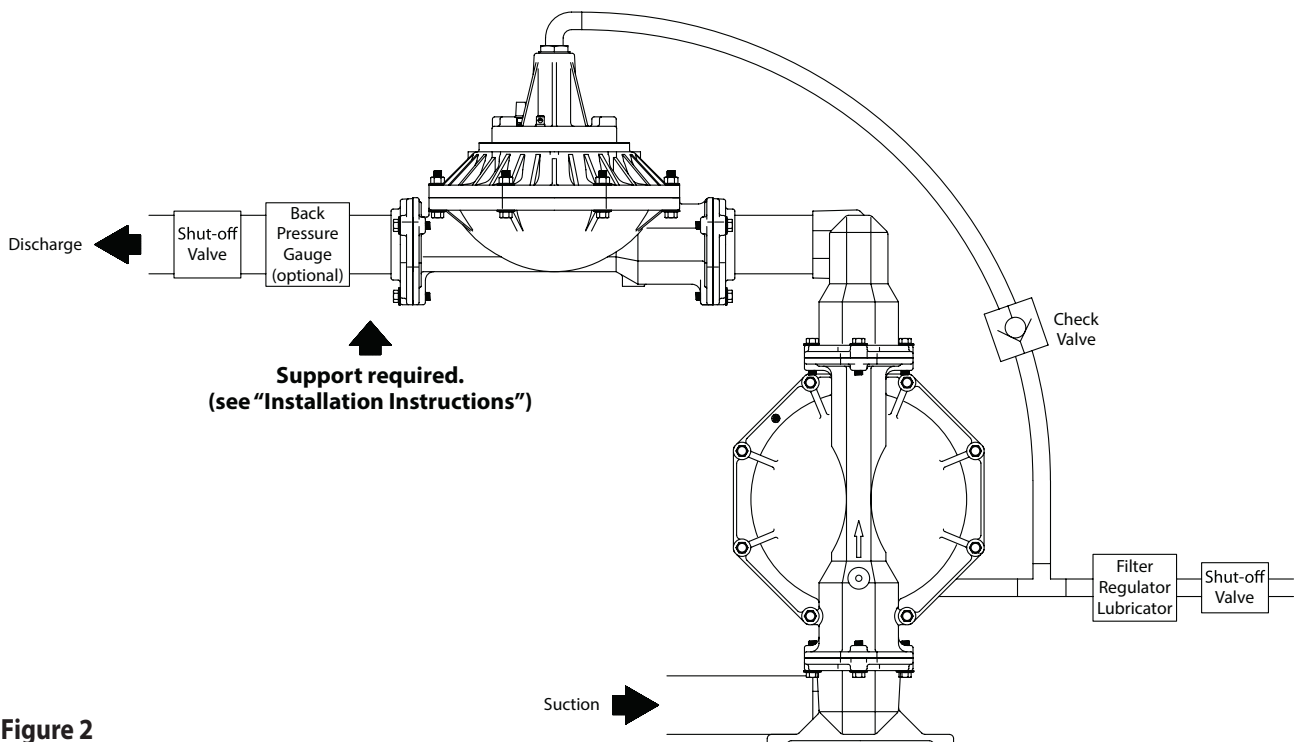

Figure 2
- Position the shock blocker pulsation dampener as close to the pump discharge as possible (as shown in figure 2).